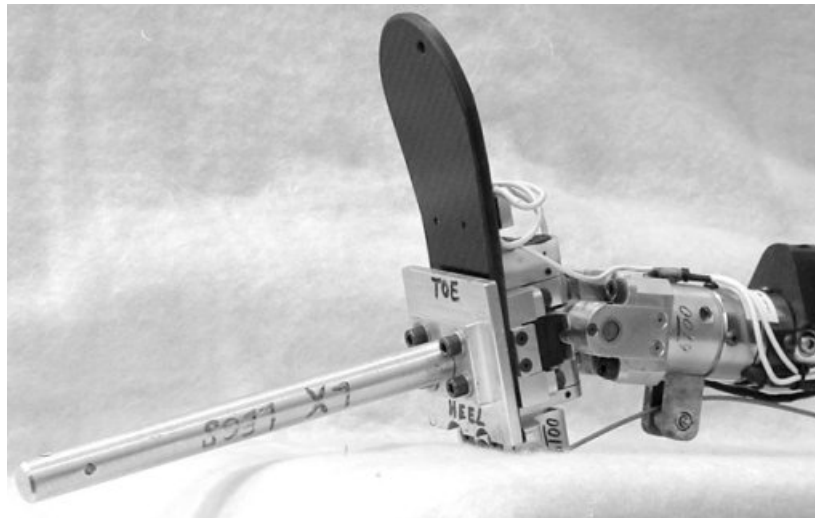

Figure B-1. Quasi-static ankle moment arm attachment
1. Remove the foot flesh and attach the ankle moment arm (TLX-9000-014) to the bottom of the ankle/Achilles mounting plate (T1FTM210) with four ¼” – 20 x 1-¼” socket head cap screws, as shown in Figure B-1. The length of the moment arm for this fixture is 254 mm (10 in). (Note: the moment arm depicted in Figure B-1 does not match the design describes in TLX-9000-014. Figure B-1 is shown for illustrative purposes only.)